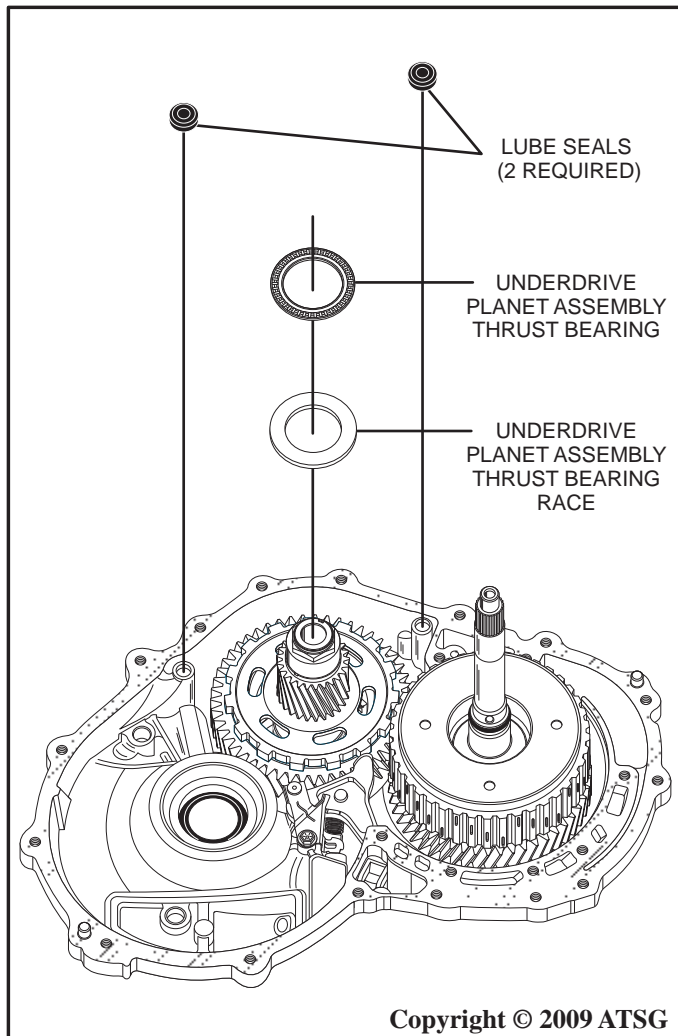

Figure 29
35. Using a pick or small screwdriver, remove and discard the two lube seals from the transaxle case assembly as shown in Figure 29.
36. Remove the thrust bearing and the bearing race from the underdrive planetary assembly as shown in Figure 29.